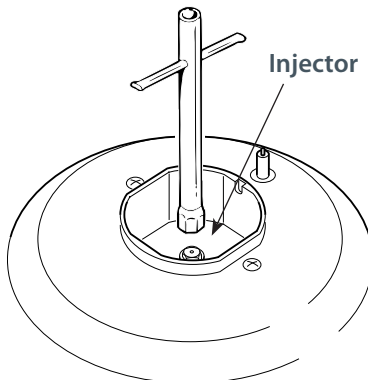

Fig. 8 Rapid and semi-rapid burners
- Using a spanner, remove the injector (Fig. 8) and replace it with one according to the gas type (see ‘Table for the choice of injectors’).